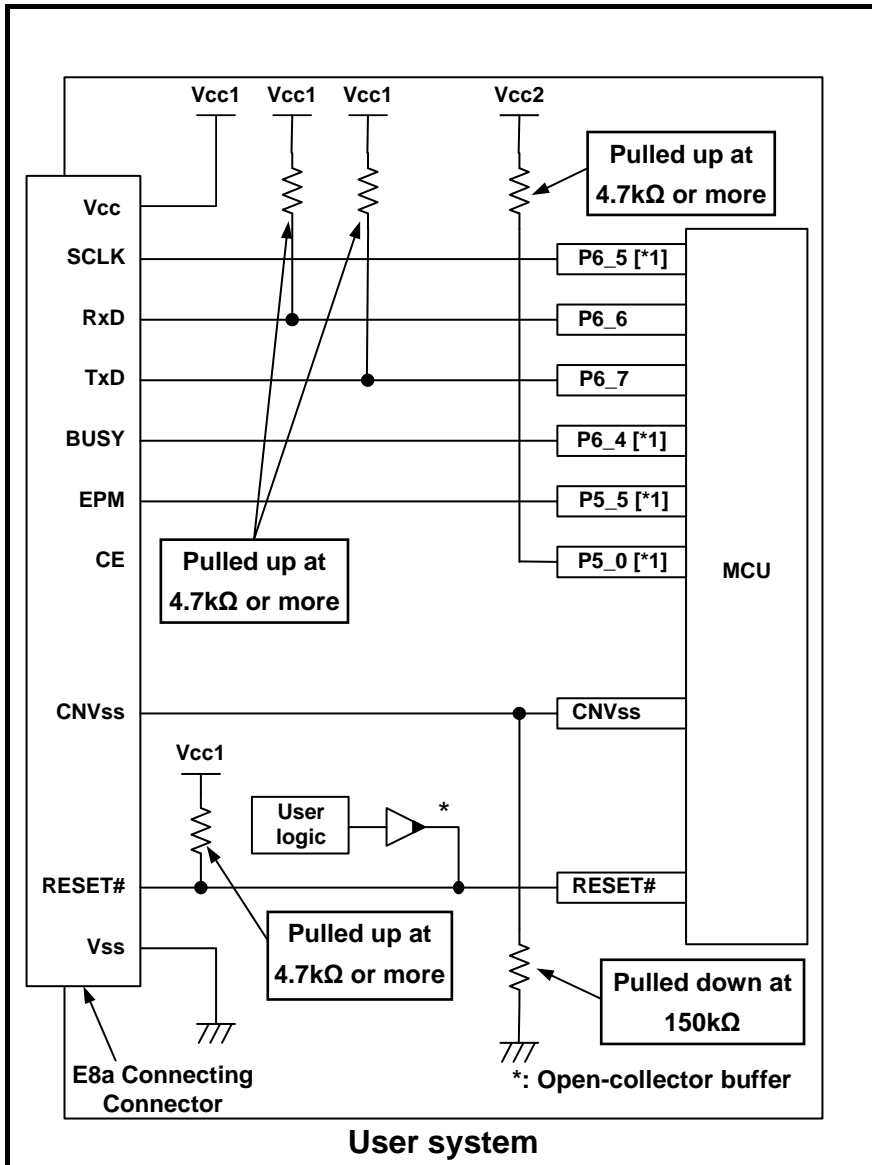

Figure 4.5 Example of an E8a Connection (Dual Power Supply)
- Dual power supply: See Figure 4.5.